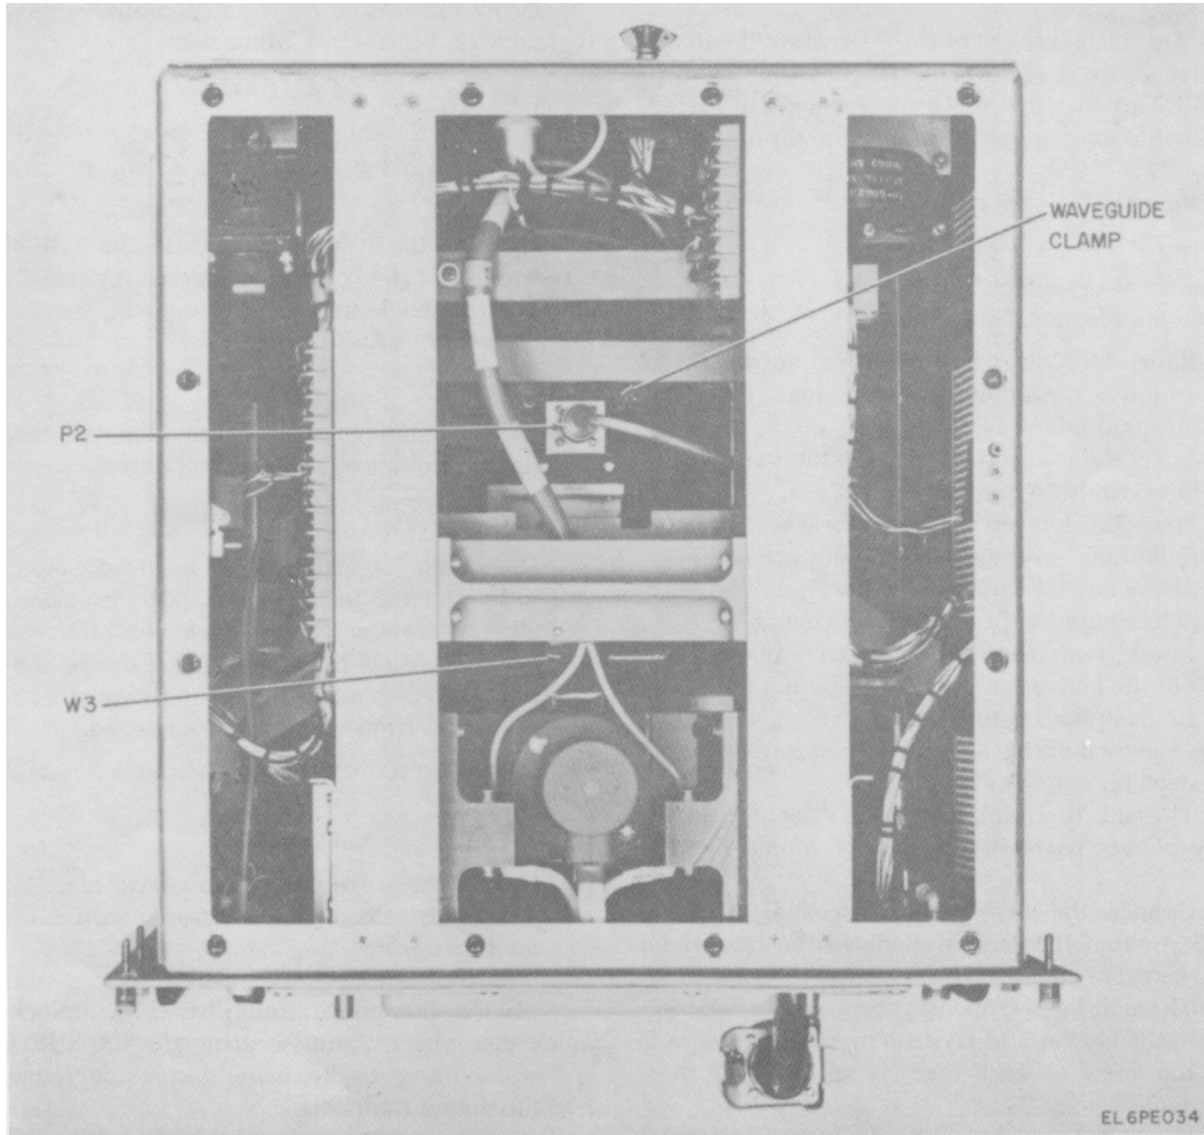

Figure 5-8. Power Amplifier, Bottom Access Opening, Removal Items.
(4) Loosen the eight captive screws on the front panel of the PA.
(5) Pull on the two handles to extend the PA from the rack.
(6) Loosen the twelve 1/4-turn fasteners which secure the top cover.
(7) Remove the top cover.
(8) Loosen the twelve 1/4-turn fasteners which secure the bottom cover.
(9) Remove the bottom cover.
(10) Loosen the thirteen 1/4-turn fasteners which secure the front access cover.
(11) Remove the front access cover.
(12) Loosen the five 1/4-turn fasteners which secure the right side access cover.
(13) Remove the right side access cover.
(14) Through the bottom access opening, loosen the waveguide clamp on the rear flange of flexible waveguide W3 (fig. 5-8). Accomplish this by inserting a standard blade screwdriver into the clamp handle slot and rotating it counterclockwise.
(15) Move the clamp out of the way.
(16) Remove the SHF input cable plug P2 from the waveguide-to-coaxial adapter (fig. 5-8).